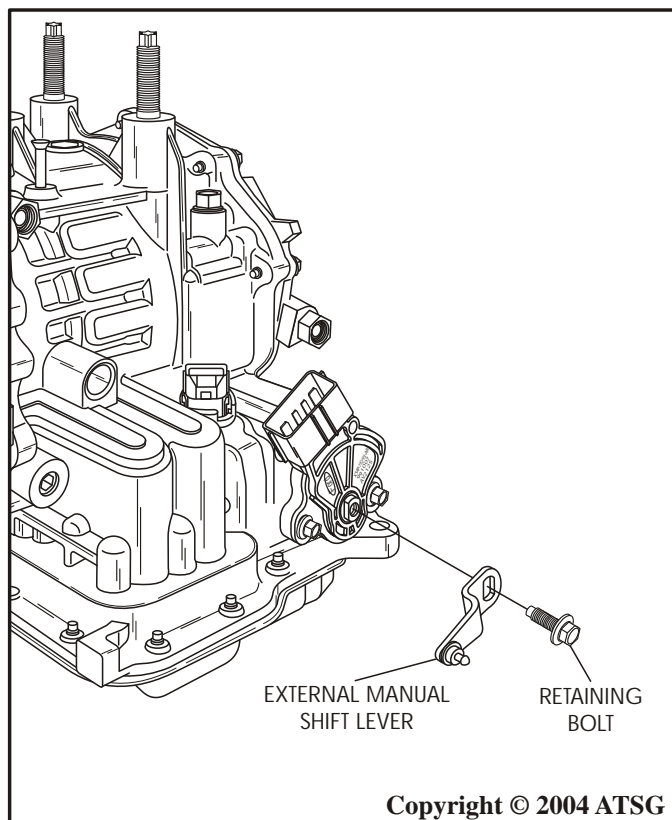

Figure 193
8. Install the external manual control lever and bolt, as shown in Figure 193, and torque bolt to 13 N•m (10 ft.lb.).